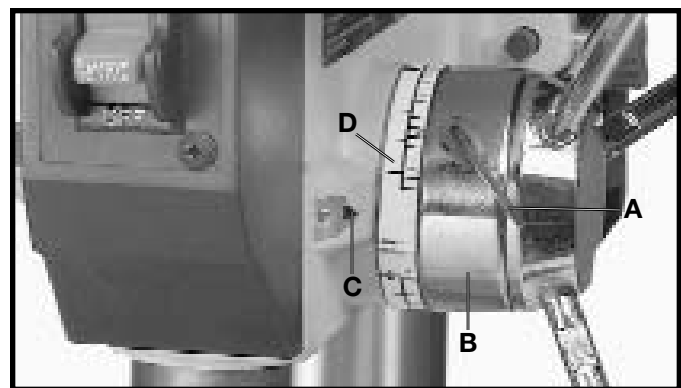

Fig. 26
1. Loosen lock screw (A) Fig. 26, and rotate housing (B) until the pointer (C) lines up with the desired depth indicated on scale (D). Then tighten lock screw (A).
2. All holes will then be drilled to the exact depth as indicated on scale (D) Fig. 26. **NOTE:** Scale (D) is calibrated in both inches and millimeters.